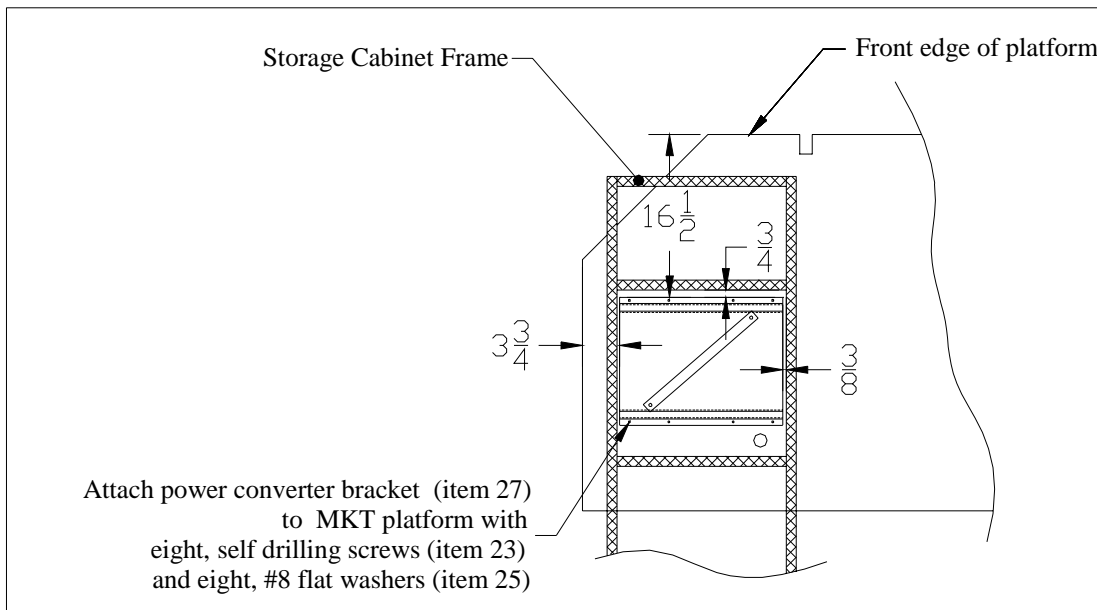

Figure 11. Position of power converter bracket inside storage cabinet.
- 4) Install the power converter bracket according to Figure 11.